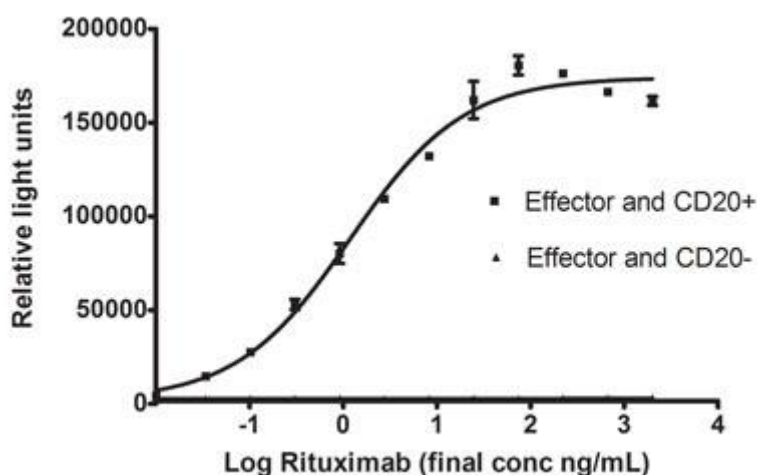

Figure 1. Example of Rituximab calibration curve using the Nano-Glo Dual-Luciferase Reporter Assay System. Values are shown as mean of triplicate \pm SD.
The *iLite*[®] ADCC Assay Ready Cells are engineered cells that enable antibody-dependent cell-mediated cytotoxicity (ADCC) to be examined through the specific expression of Firefly Luciferase. When the antibodies of interest bind to the antigens on the surface of the target cell, the target-bound antibodies will be presented to the Fc receptors (FcγRIIIa) on the effector cell. When the Fc-portion of the target-bound antibodies binds to the receptor, multiple cross-linking of the two cell types occurs. This will initiate a signaling cascade which triggers the expression of Firefly Luciferase (FL) in the effector cell. In this application note, we describe the use of an effector cell line (*iLite*[®] ADCC Effector (V) Assay Ready Cells) that over-express FcγRIIIa and contain the FL reporter gene that responds to the principal transcription factors that mediate signaling from the FcγRIIIa receptor, together with a positive target cell line which over-expresses the surface antigen CD20 (*iLite*[®] ADCC Target CD20 (+) Assay Ready Cells). *iLite*[®] ADCC Effector (V) Assay Ready Cells also contain the Nano Luciferase (NL) reporter gene, under the control of a constitutive promoter, that allows drug-induced FL activity to be normalized with respect to the constitutive expression of NL. This renders assay results independent of variations in cell number, serum matrix effects, or lysis of the effector cells by the target cells. In addition, we also describe the use of a negative control in the form of a target cell line depleted of CD20 expression (*iLite*[®] Target CD20 (-) Assay Ready Cells). The Firefly luciferase signal can be measured in a luminometer following addition and incubation of luciferase substrate. The Firefly luciferase signal is proportional to the functional activity of Rituximab in the sample (Fig.1).